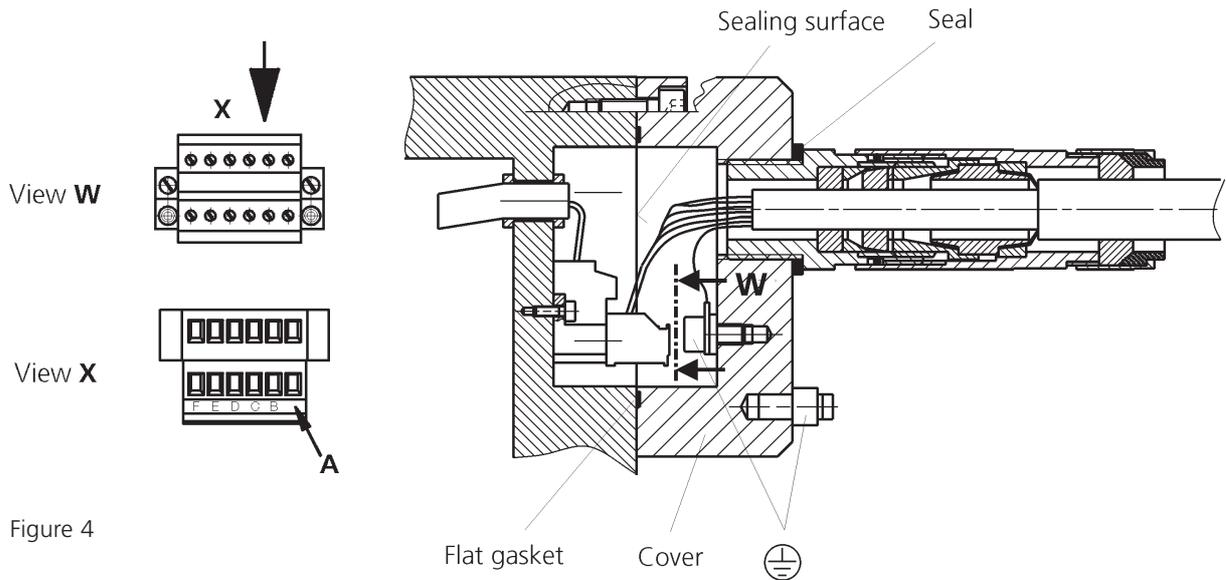

Figure 4
**During assembly ensure that the sealing face of the cover is not damaged.** (see figure 4)